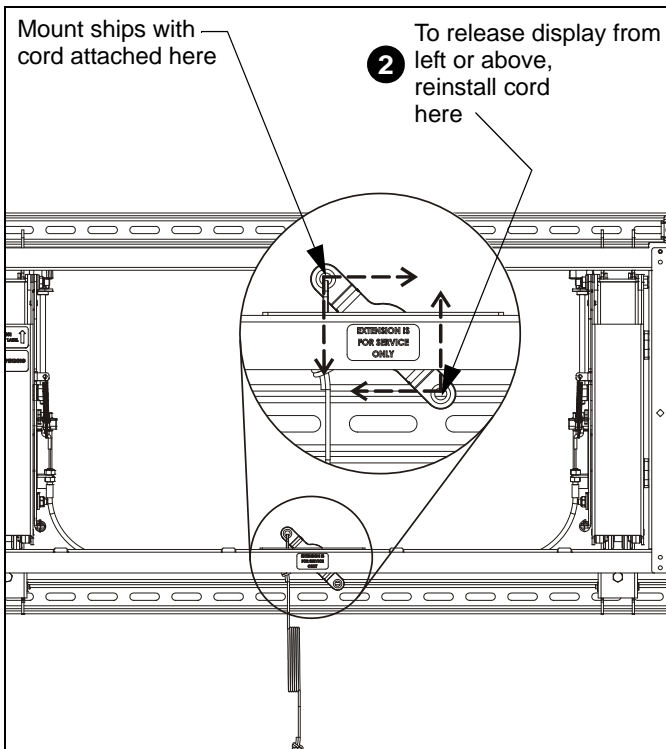

Figure 22
1. Unhook the pull cord from the mount. (See Figure 22)
2. Reinstall the pull cord in the opposite hole on the mount. (See Figure 22)